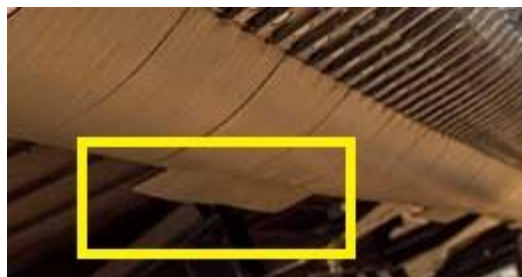

Figure 318
1. The terrace kits include UHMW plastic on the rear of the cutterbar Figure 318. This plastic skid plate keeps material from coming up under the cutterbar when the header is operating on a terrace.
4. Each plate is mounted to the cutterbar with four 3/8"X1" bolts and locknuts, Figure 318